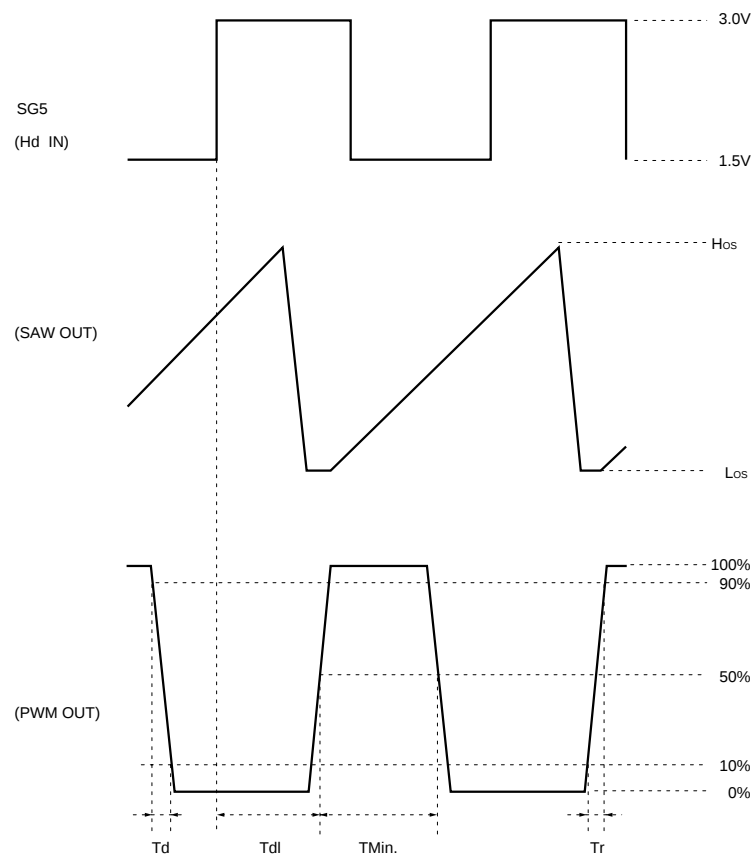

Fig.14
*₁ The pin 12 output amplitude should be set to V_O. AV = 20log (V_O / V_{IN}) [dB]*₂ For the method by which the output waveform is determined, refer to Fig. 14.*₃ An input frequency should be measured that produces a level of -1dB for a high output level (H_{OS}) for the sawtooth waveform at an input frequency of 30kHz.*₄ The temperature is measured at the point where the temperature is raised to above T_a = 75°C and the output level of pin 9 is high.